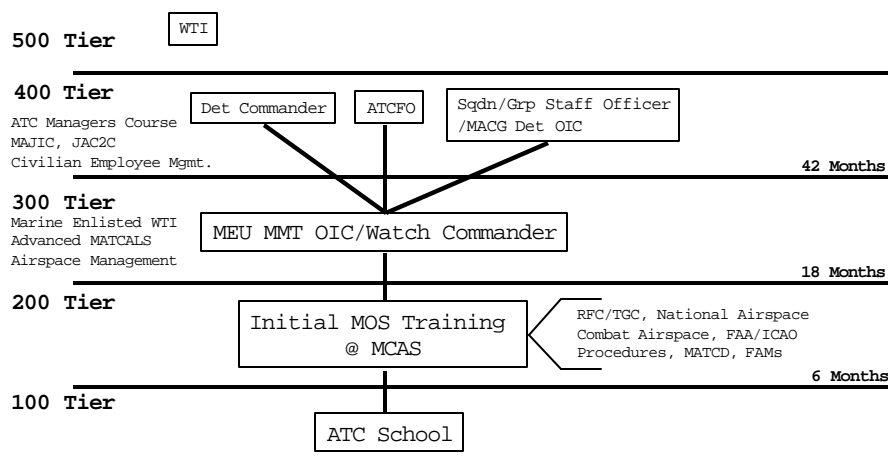

Figure 1-1.--Air Traffic Control Officer Progression Model.
1. The Officer Progression Model for the ATCO is depicted in figure 1-1. This model depicts the **logical progression of qualifications** within a unit.